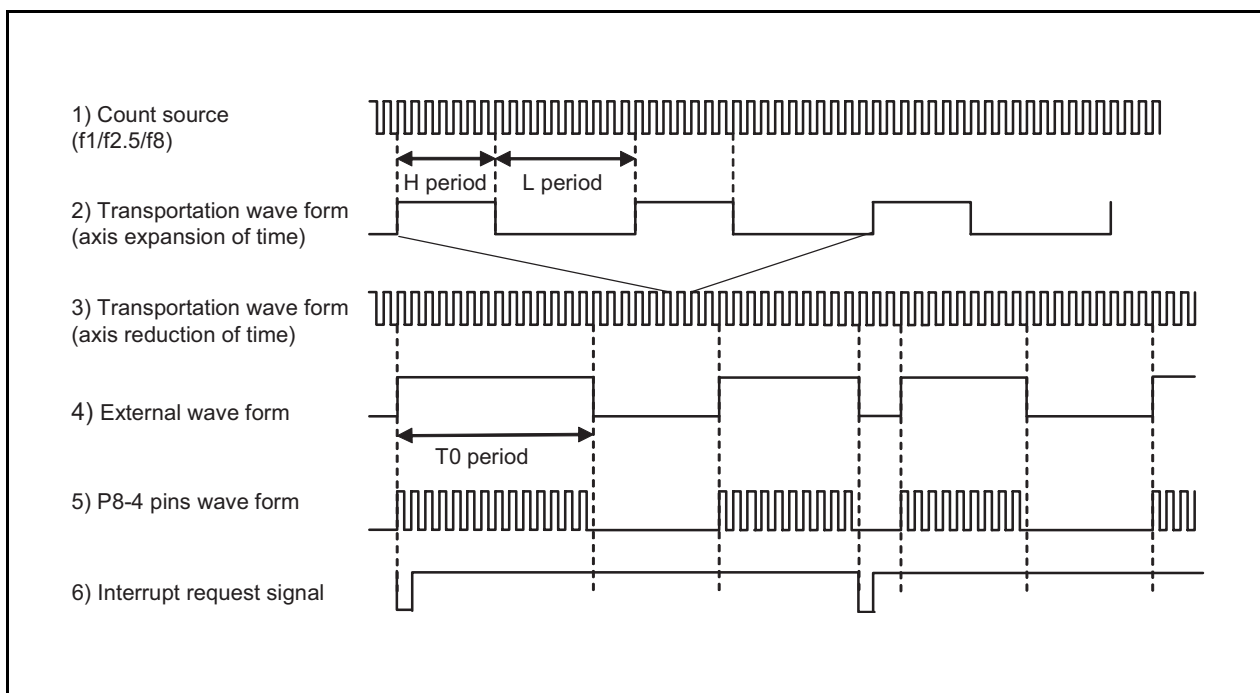
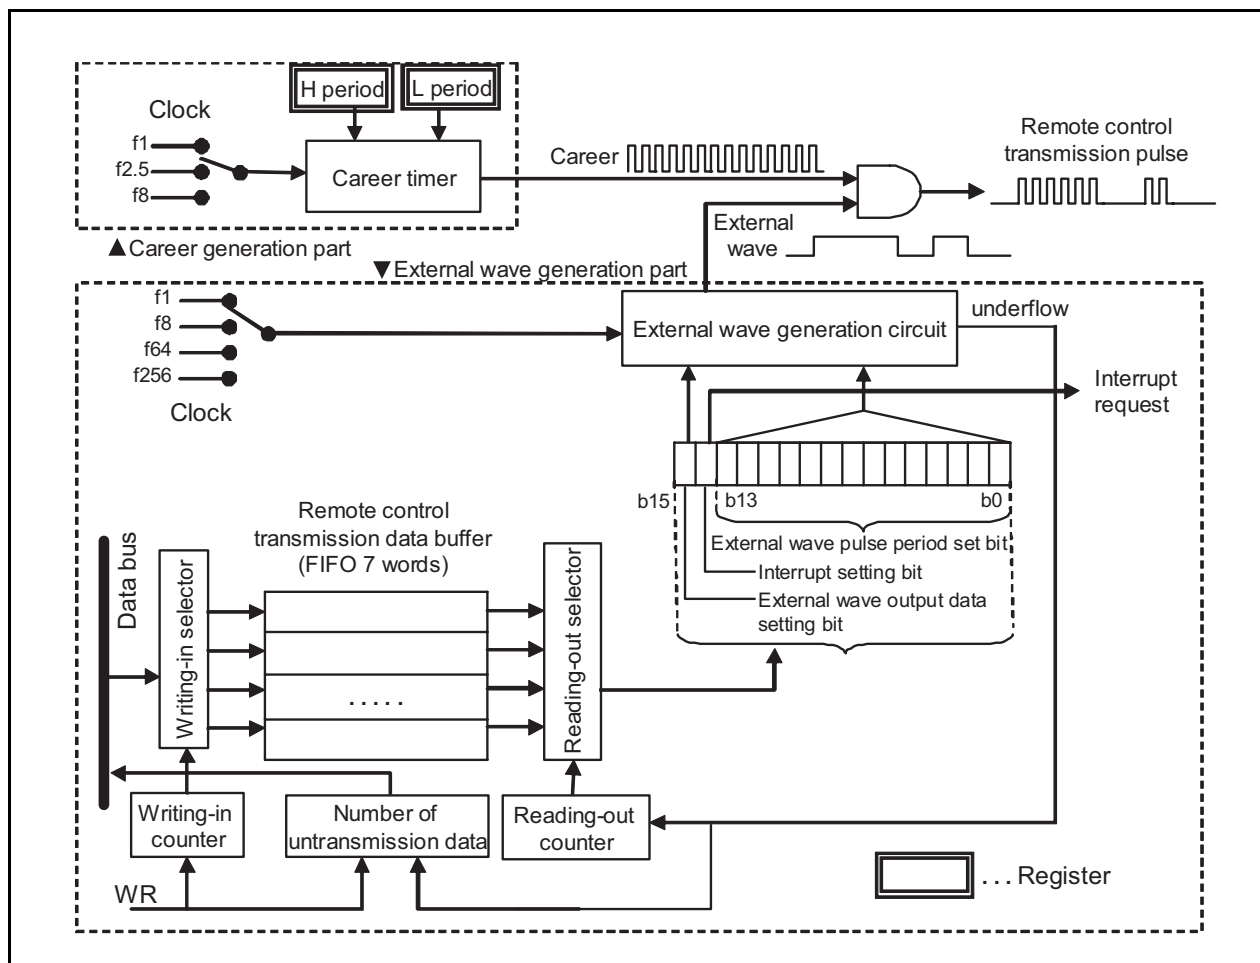

Figure 14.18 Remote control transmission circuit output wave form
Figure 14.19 Remote control transmission circuit block chart
The specification of the remote control transmitter is shown in Table 14.5, The remote control transmission circuit output wave form is shown in Figure 14.18, and The remote control transmission circuit block chart is shown in Figure 14.19.
- Career is a continuous pulse of the arbitrary width obtained by dividing the main clock (Figure 14.18 Wave forms 2 and 3.)
- External wave is a shape of waves generated from the transmission data buffer with reading pin output value ("H"/"L") and the pulse width one by one (Figure 14.18 Wave form 4.)
- The shape of waves that can synthesize the career to external wave is output from the pin (Figure 14.18 Wave form 5.)